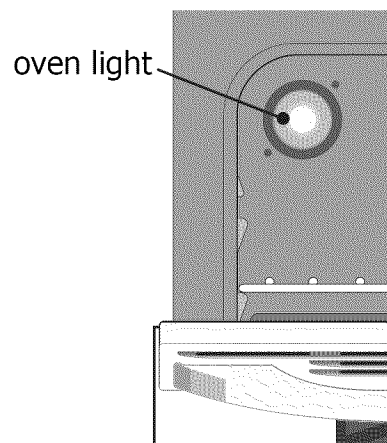

Fig. 2
2. Replace bulb with a new 40 watt appliance bulb (Refer to Fig. 2).